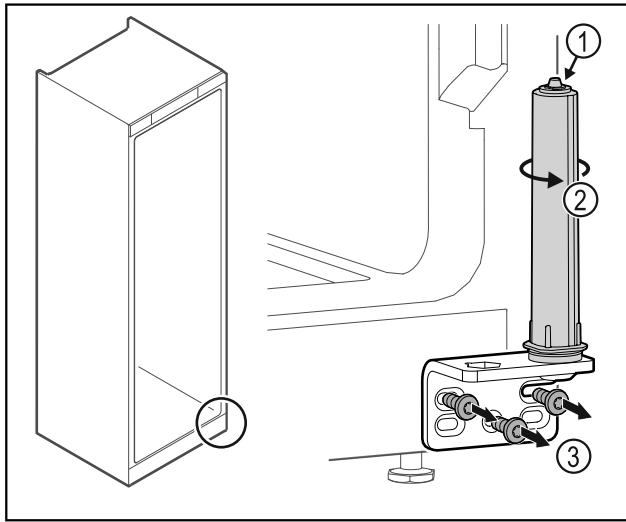

Fig. 51
- Do not disassemble the door closing system Fig. 51 (1).
- ▶ Turn the closing system Fig. 51 (2) until it clicks.
- ▶ Unscrew the hinge Fig. 51 (3).